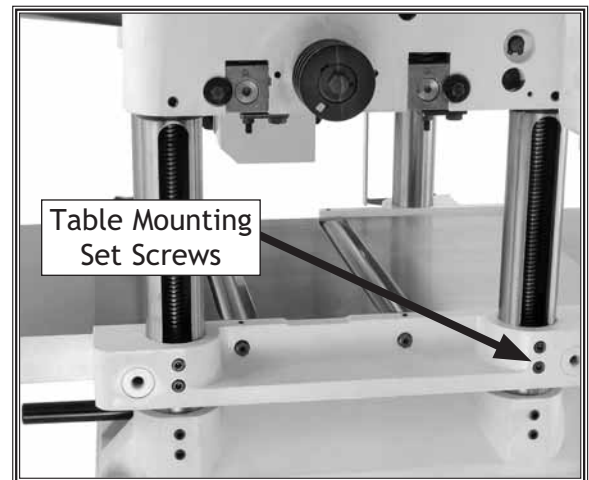

Figure 36. Table mounting screws.
1. Use the table mounting screws shown in **Figure 36**. Loosen the screws and lift/lower the table until the table and the cutterhead body are parallel with each other and the table is parallel with the head casting from front to back. This may require some trial and error.